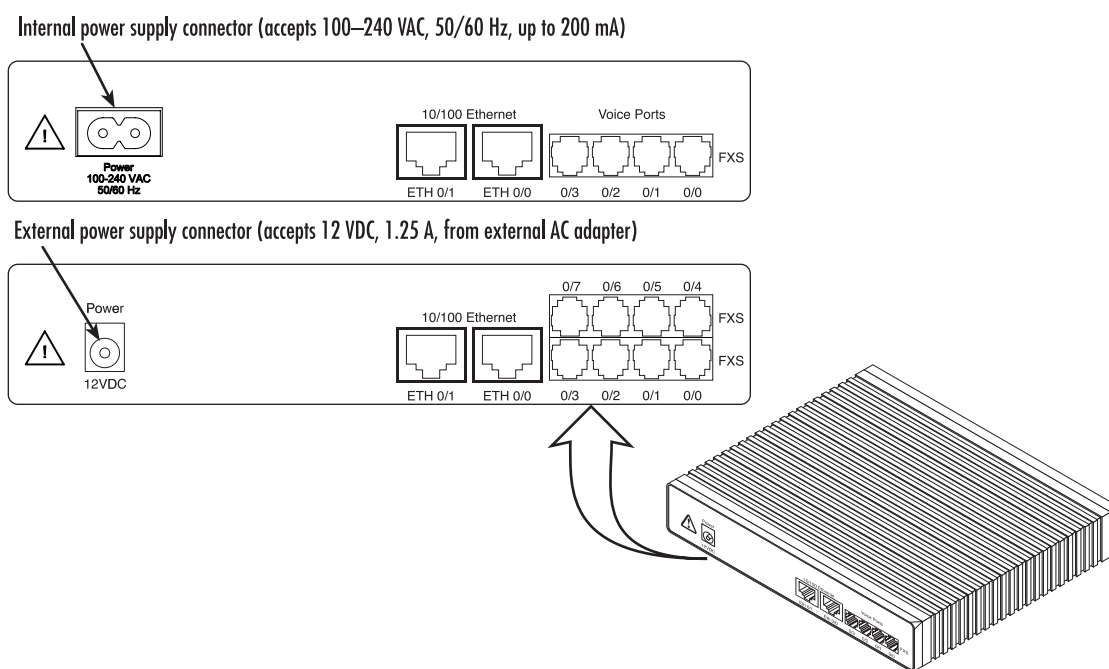

Figure 22. Power connector location on rear panel
1. If your unit is equipped with an internal power supply, go to step 2. Otherwise, insert the barrel type connector end of the AC power cord into the external power supply connector (see figure 22).
2. Insert the female end of the power cord into the internal power supply connector (see figure 22).